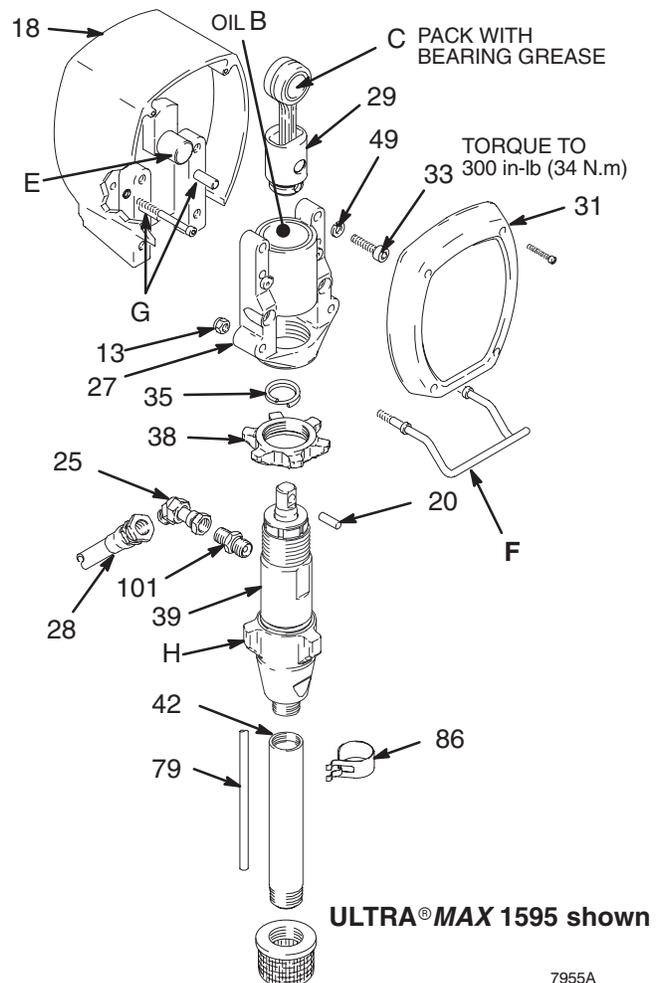

Fig. 11
NOTE: Read **General Repair Information** on page 4 before doing this procedure. See Fig. 11.
12. Install screws (33) and lockwashers (49). Tighten screws evenly to 300 in-lb (34 N.m).
14. Install remaining parts. See Fig. 11.